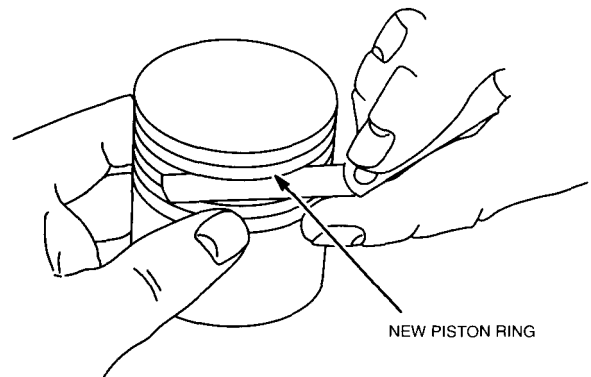

Figure 12-3. Check Ring Grooves
1. Check side clearance of ring grooves using new rings, Figure 12-3. If a 0.10mm (.004") feeler gauge for the compression rings or 0.20mm (.008") for the oil ring can be inserted, the ring groove is worn. The piston must be replaced.